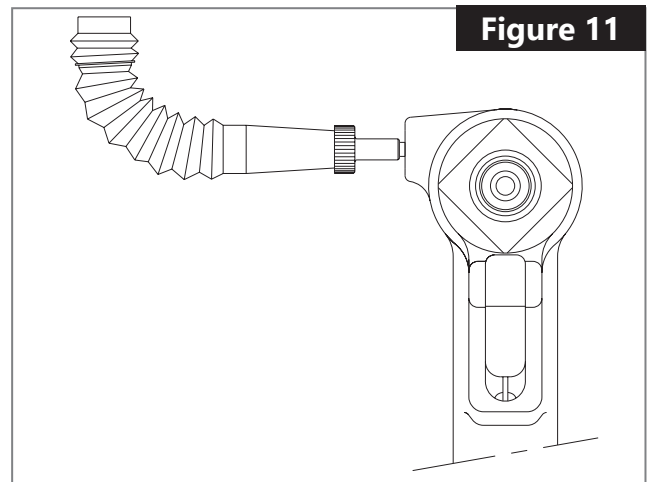

Figure 11
4. Stand the tool upright on a bench. Trigger the tool slowly (20–30 cycles), and bend the fill bottle at a right-angle (90°) to the tool. (Figure 11)